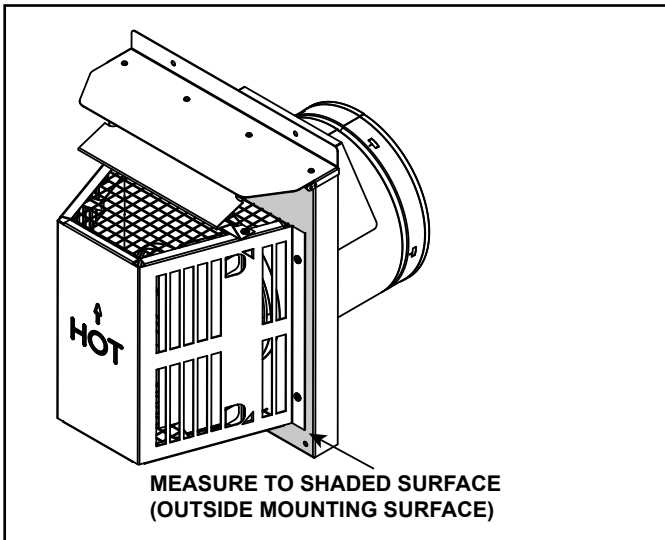

Figure 4.9 Measure to Outside Mounting Surface
- Horizontal terminations are measured to the outside mounting surface (flange of termination cap) (see Figure 4.9).